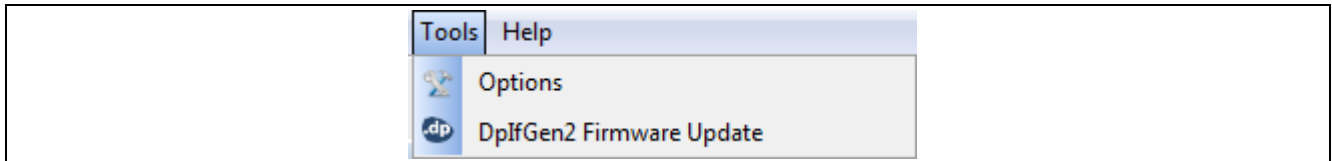
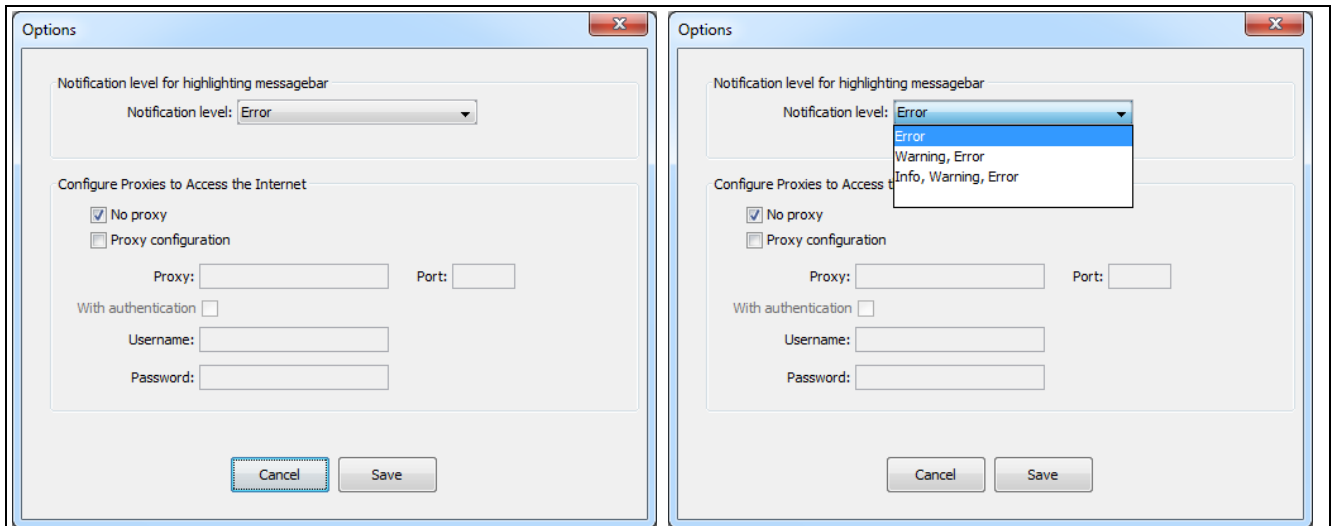

Figure 27 .dp Vision Tools Menu
Figure 28 .dp Vision Tools Menu -> Options
- The Tools menu (see Figure 27) allows logging and message levels to be displayed (see Figure 28) as well as a firmware update option which can be used to update the DplfGen2 interface board firmware (see Section 5).